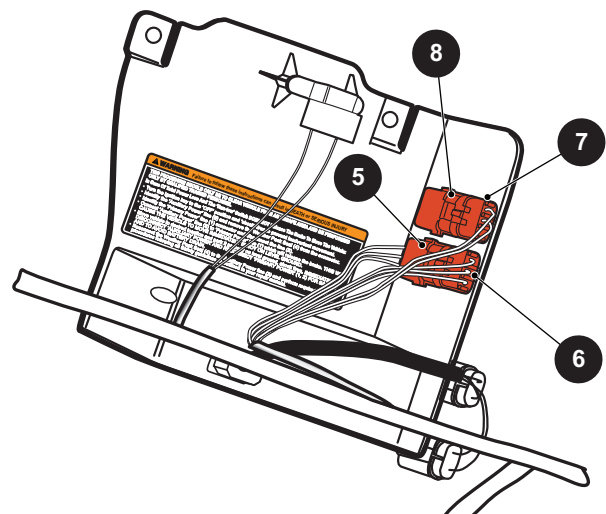

Figure 5 Splash Shield and Parking Brake Release
- Locate the 'Auxiliary Power' line (7) and remove the weather pack seal (8) from the connector (Figure 5).
- Locate the 'Primary Power' line connector (5) and disconnect it from line (6).
- Connect the 'Auxiliary Power' line (7) to the 'Primary Power' line (5) which releases the brake. If the tires are not chocked and the vehicle is not on flat ground the vehicle will move immediately.
- Disconnect the 'Auxiliary Power' line (7) from the 'Primary Power' line (5).
- Connect the 'Primary Power' line (5) to line (6).
- Replace the weather pack seal (8) on the 'Auxiliary Power' line connector (7).